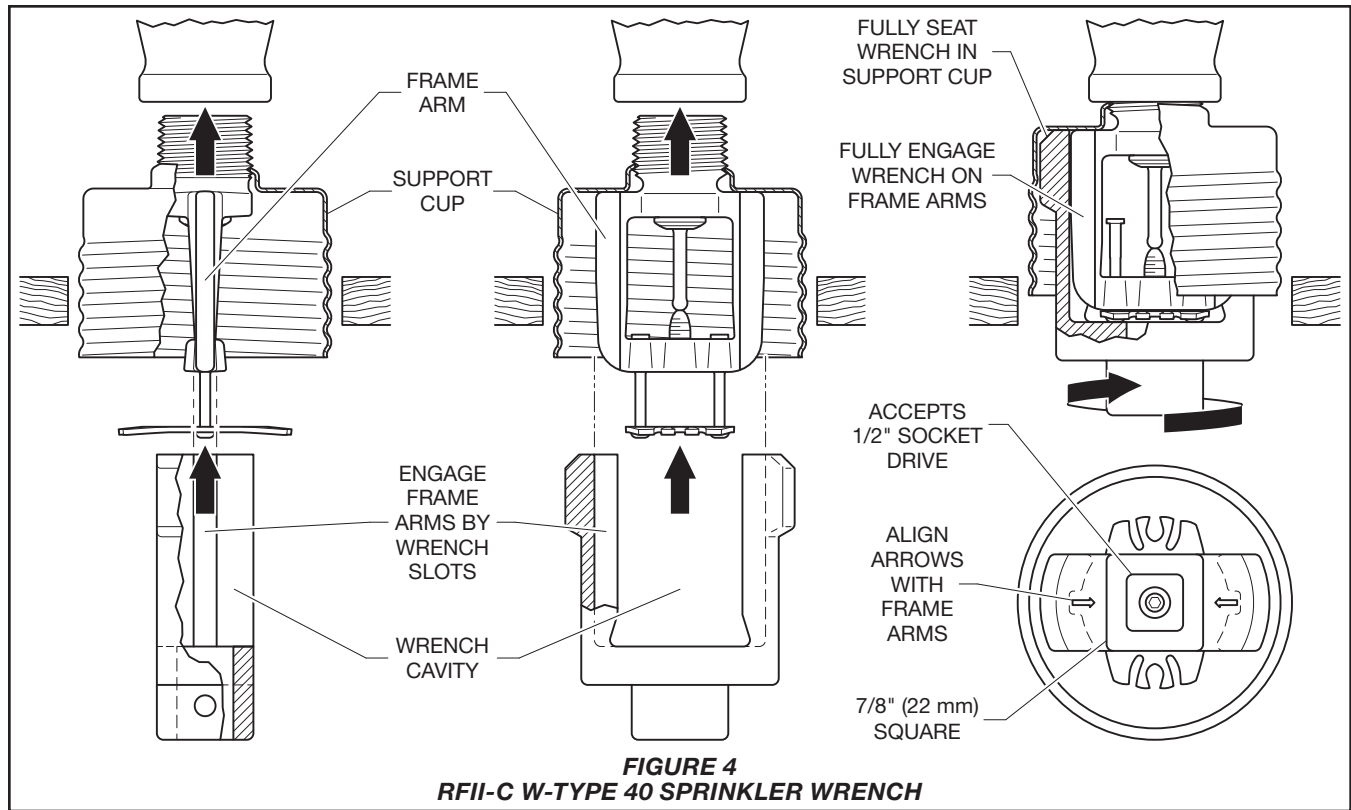

FIGURE 4
Step 4. Wrench tighten the deflector using only the W-Type 40 Sprinkler Wrench shown in Figure 4 so that the marking <-28 FT (8,5 M)-> on the deflector is in the direction of the 28 ft (8,5 m) coverage length. The frame arms do not need to be aligned parallel to the sprinkler pipe. Apply the wrench to the sprinkler as shown in Figure 4.
Step 5. Replace the protective cap by pushing it upwards until it bottoms out against the support cup as shown in Figure 4.